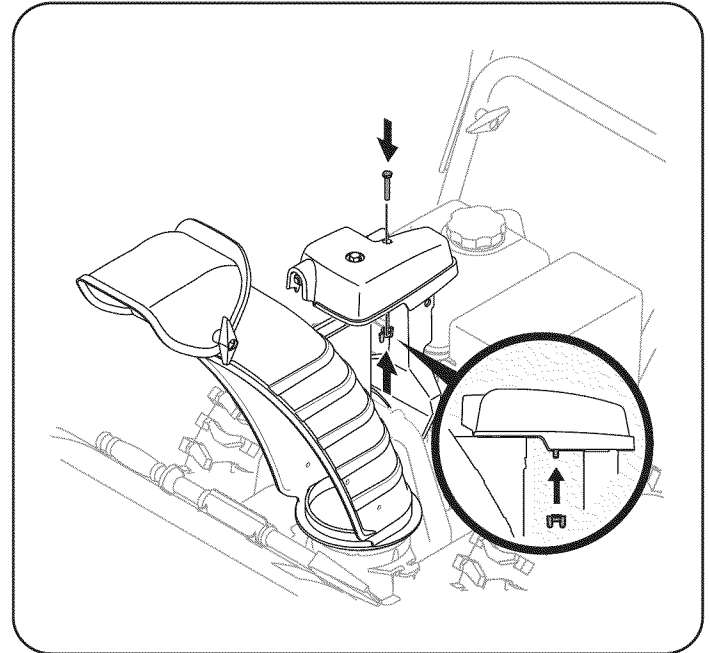

Figure 6
7. Finish securing chute control head to chute support bracket with wing nut and hex screw removed in Step 5. See Figure 6.